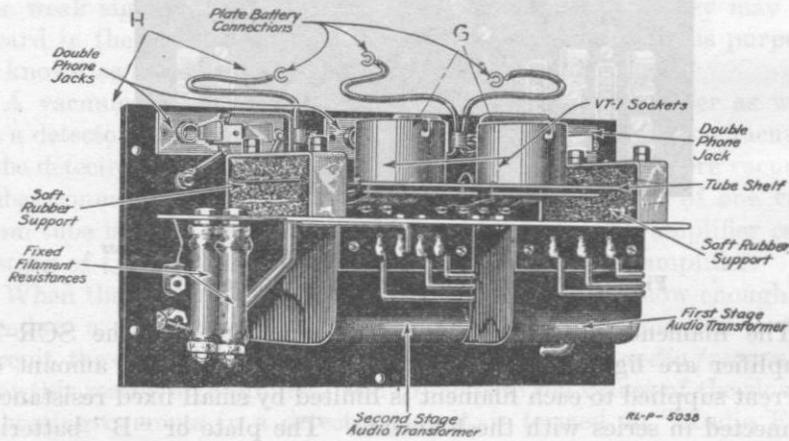
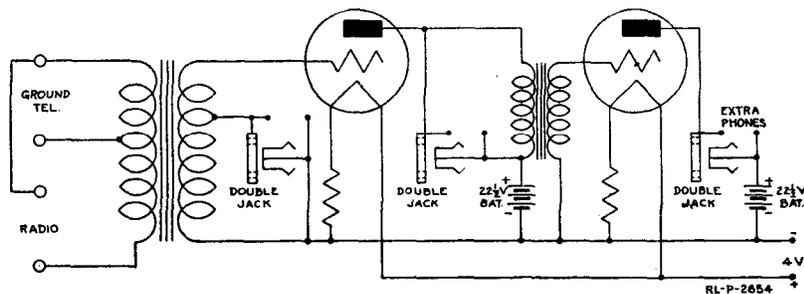

Fig. 61.—Panel of set box BC-17 removed to show interior parts.
Fig. 62.—Schematic diagram of connections in set box BC-17.
from the edges of the bakelite panel. Carefully remove the panel and attached parts from the box. (See Fig. 61.) Check the wiring diagram shown in Fig. 62 with the wiring in the set itself.
It will be noticed in Fig. 61 that there are two iron covered parts marked "First Stage Audio Transformer" and "Second Stage Audio Transformer." Inclosed in each of the iron cases is a special type of transformer which consists of an iron core, a primary winding, and a secondary winding. Both windings are wound directly on the iron core. The purpose of the transformers is to provide coupling between the amplifier tube circuits. The first stage audio frequency transformer is used to couple the plate circuit of the detector tube to the grid circuit of the first stage amplifier tube. The second stage audio frequency transformer is used to couple the
- (1) *What is an amplifier? An audio-frequency amplifier?*
- (2) *What is the purpose of the SCR-72 amplifier?*
- (3) *Is it possible to vary the amount of amplification in the SCR-72 amplifier? Explain.*
- (4) *How many telephone head sets can be connected to each stage of amplification?*
- (5) *Can several head sets be connected to more than one stage at a time?*
- (6) *What is the purpose of each of the small resistances located at the left of the amplifying transformers in Fig. 61?*
- (7) *How many volts are used in the plate circuit of this amplifier?*
- (8) *For what type vacuum tube is this amplifier constructed?*
- (9) *How many stages of amplification are provided?*
- (10) *Does the amplifier contain any device for varying the filament current?*
- (11) *How is the filament current kept low enough so as not to damage the vacuum tubes?*
- (12) *How are the tube sockets mounted? Why are they mounted in this manner?*
- (13) *What type of coupling is used in the amplifier circuits?*
- (14) *What is the name of the device which provides this coupling?*
- (15) *Why are two of these devices necessary in the SCR-72 amplifier?*